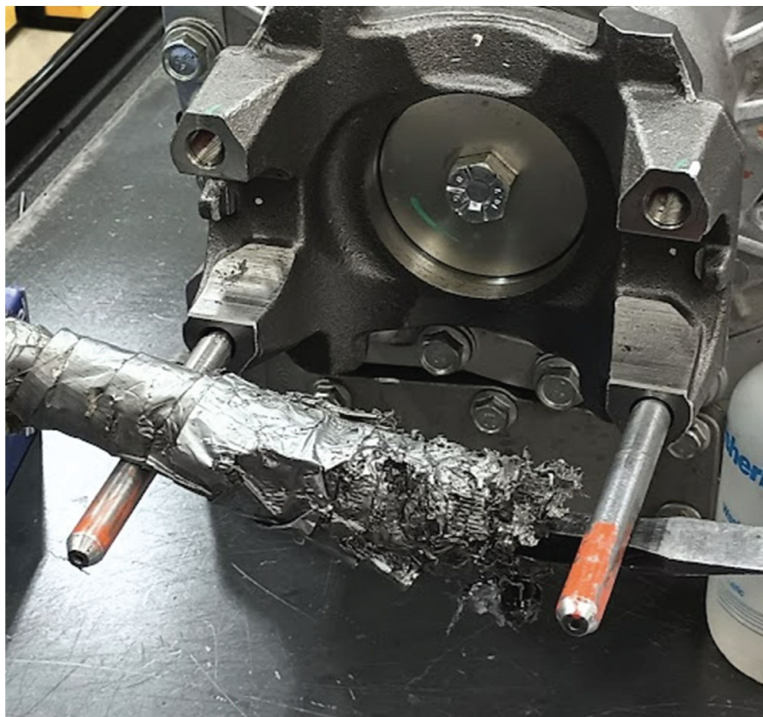

Figure 1.
- Make sure not to damage yoke u-joint cavity or other machined surfaces (refer to Figure 1).